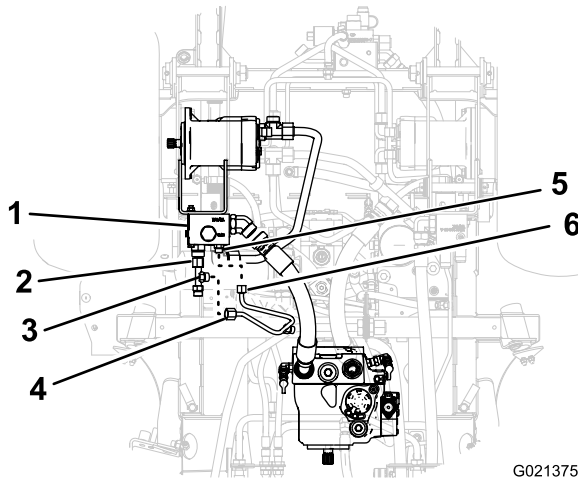

Figure 11
1. Align the forward-tube nut for the tube manifold with the check adapter located in port CH1 of the flow divider (Figure 11).
2. Align the rear-tube nut for the tube manifold with the 90° threaded fitting of the T-fitting (Figure 11).
3. Thread the tube nuts of the tube manifold onto the check adapter and the T-fitting (Figure 11).